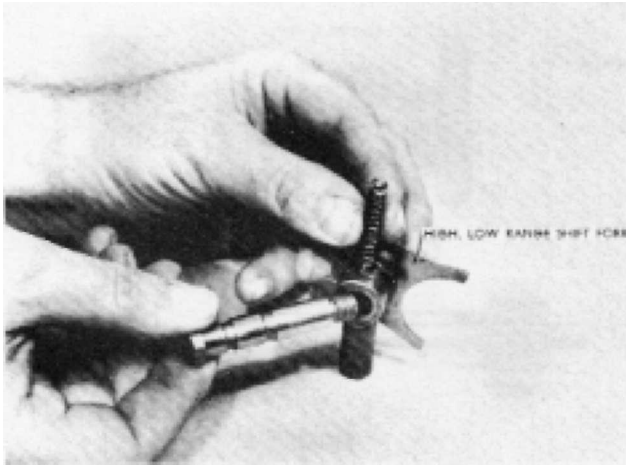

FIGURE 10
3. Assemble the high and low range shift fork assembly (Figure 10) by inserting the spring and ball in the detent hole. Using a punch, press on the ball, compressing the spring. At the same time insert the detent bolt, withdrawing the punch as the bolt slides in place.